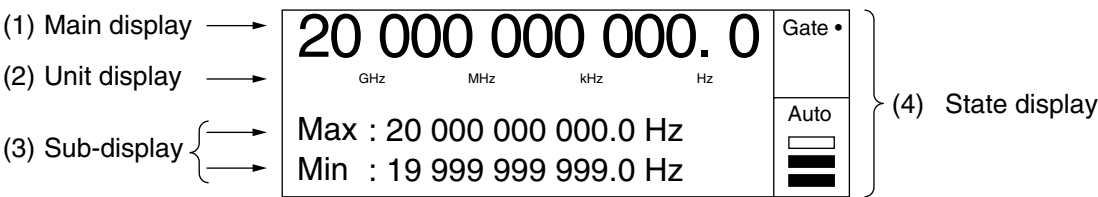
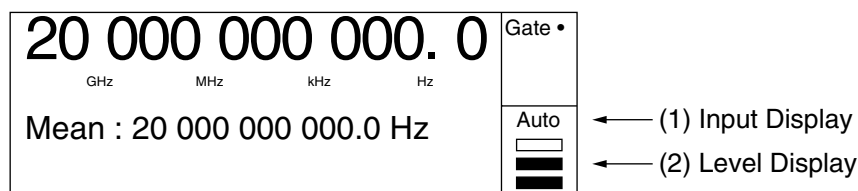

Fig. 4-2 Normal Measurement Screen
Fig. 4-3 Level Display
Figure 4-2 shows the normal measurement screen that displays frequency measurement results with numeric values. This screen is displayed when the initial setup has been done.
The following describes items (1) to (4) in Fig. 4-2.
- (1) Main display
- (1) The input signal is outside of the measurable range.
- (2) The measurement resolution cannot be obtained from the measurement result.
- (3) You have input a pulse burst signal that could not get measurement resolution that could be set even when averaged during burst carrier frequency measurement.
- (4) You selected Input2 as the signal input terminal while the burst measurement mode was set.
Fig. 4-3 describes the level display of the Fig. 4-2 (4) state display in even more detail. The level display consists of an input display showing how to handle the input signal (1) and a level display showing the power of the input signal (2).
Tables 4-4 and 4-5 describe the input display (1) and level display (2) of the Fig.4-3.